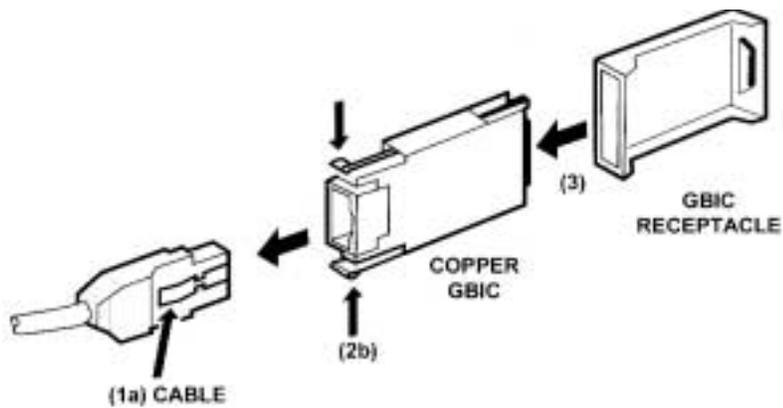

Figure 2-6. Removing the HSSDC Copper GBIC Module
- (a) If you are using the HSSDC Copper Cable, squeeze the tab to remove. (See Figure 2-6. on page 10.)
- (b) If you are using the HSSDC Copper GBIC, squeeze the tabs on both sides of the GBIC. (See Figure 2-6. on page 10.)